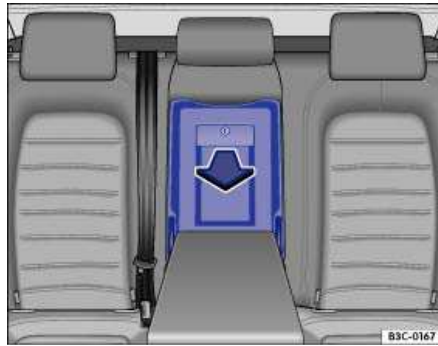

Fig. 97 In the rear seat backrest: Opening the luggage compartment pass-through.
- Pull the release lever ⇒ fig. 97 and fold the pass-through cover all the way forward.